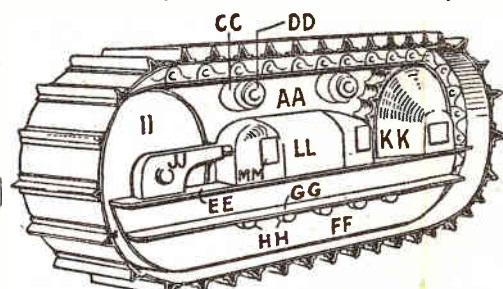

Fig. 7—Lettered parts which make the tractor complete
Now turn to the formation of the tractor and wheels, and study the full-size side view on the sheet in conjunction with the picture of the finished shapes at Fig. 7. The building is straightforward when you have cut out and shaped the parts, commencing with the foundation pieces (AA) and (BB) (see Fig. 8). The piece (EE) beds in flat between the wheel portions projecting outwards. $\frac{1}{8}$ in. below this is (GG) also glued on edge, as indicated on the pattern of (FF).
The track portion is a piece of card 17 ins. long, 1 in. wide. Glue it round the outside of the body work (see Figs. 7 and 8), a distance of $\frac{1}{4}$ in. from the body of the engine portion. When fixed, the shoes are glued on. Each of these is cut from a piece of card 1 in. long and $\frac{1}{8}$ in. wide. Fold it to the angle shown in the detail on the sheet, then carefully glue each shoe with $\frac{1}{8}$ in. between along the card track. Mark their position first with pencil and see they are firmly in place. Fitting these 76 track shoes requires patience and care, although there is nothing difficult in their fitting.